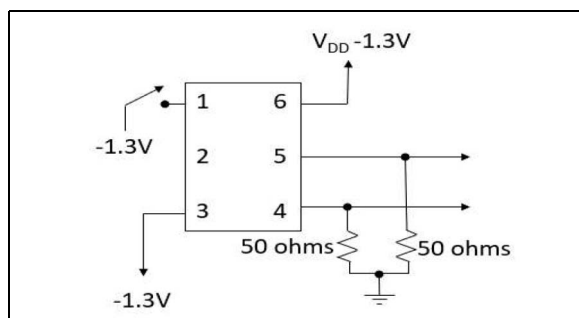
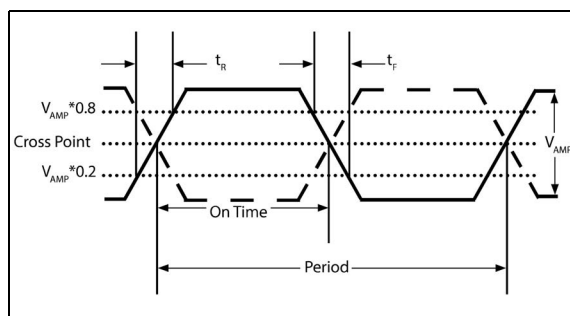
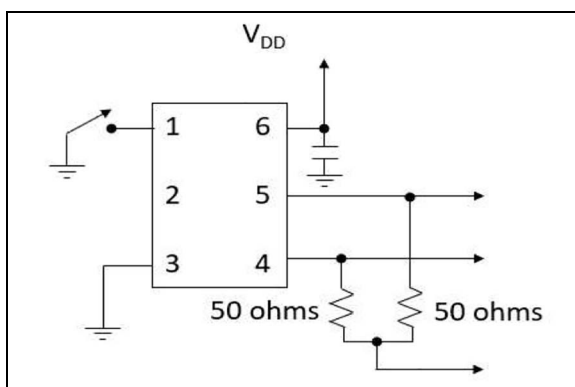

FIGURE 1-1: Test Circuit.
FIGURE 1-2: Output Rise/Fall Time.
FIGURE 1-3: LVDS Test Circuit.
- 3:** Figure 1-1 defines the test circuit and Figure 1-2 defines these parameters.
- Note 3:** Figure 1-1 defines the test circuit and Figure 1-2 defines these parameters.
- 3:** Figure 1-3 defines the test circuit and Figure 1-2 defines these parameters.
- Note 3:** Figure 1-3 defines the test circuit and Figure 1-2 defines these parameters.